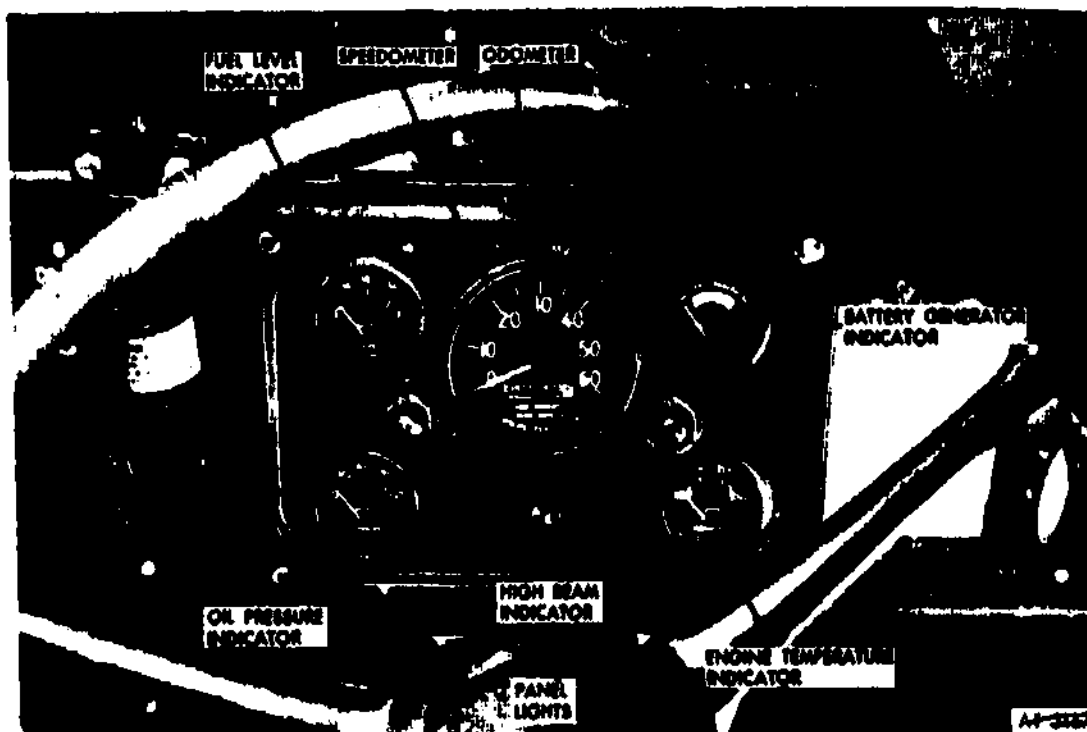

Fig 2-151. Check gages for cracked and painted over lenses.
a. Visual inspections. First, visually inspect gages. Make sure that the glass is not cracked. Cracked glass allows moisture to enter the gage. Visually inspect for paint on the glass or a smoked condition which would decrease visibility. Gages may become loose in the panel (fig 2-151). The gage itself is held in by a bracket. Note that the standard type connectors are used to activate the gages.